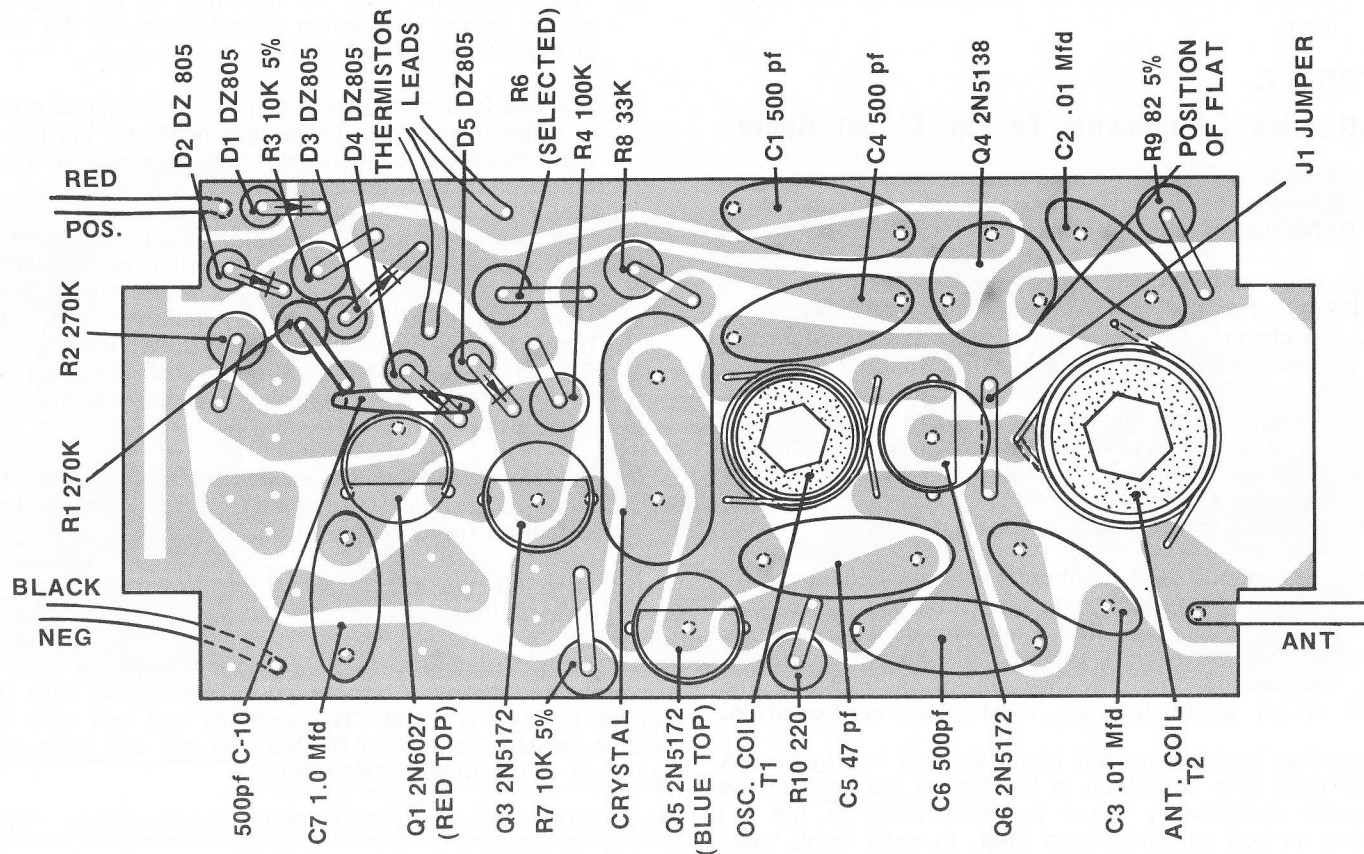
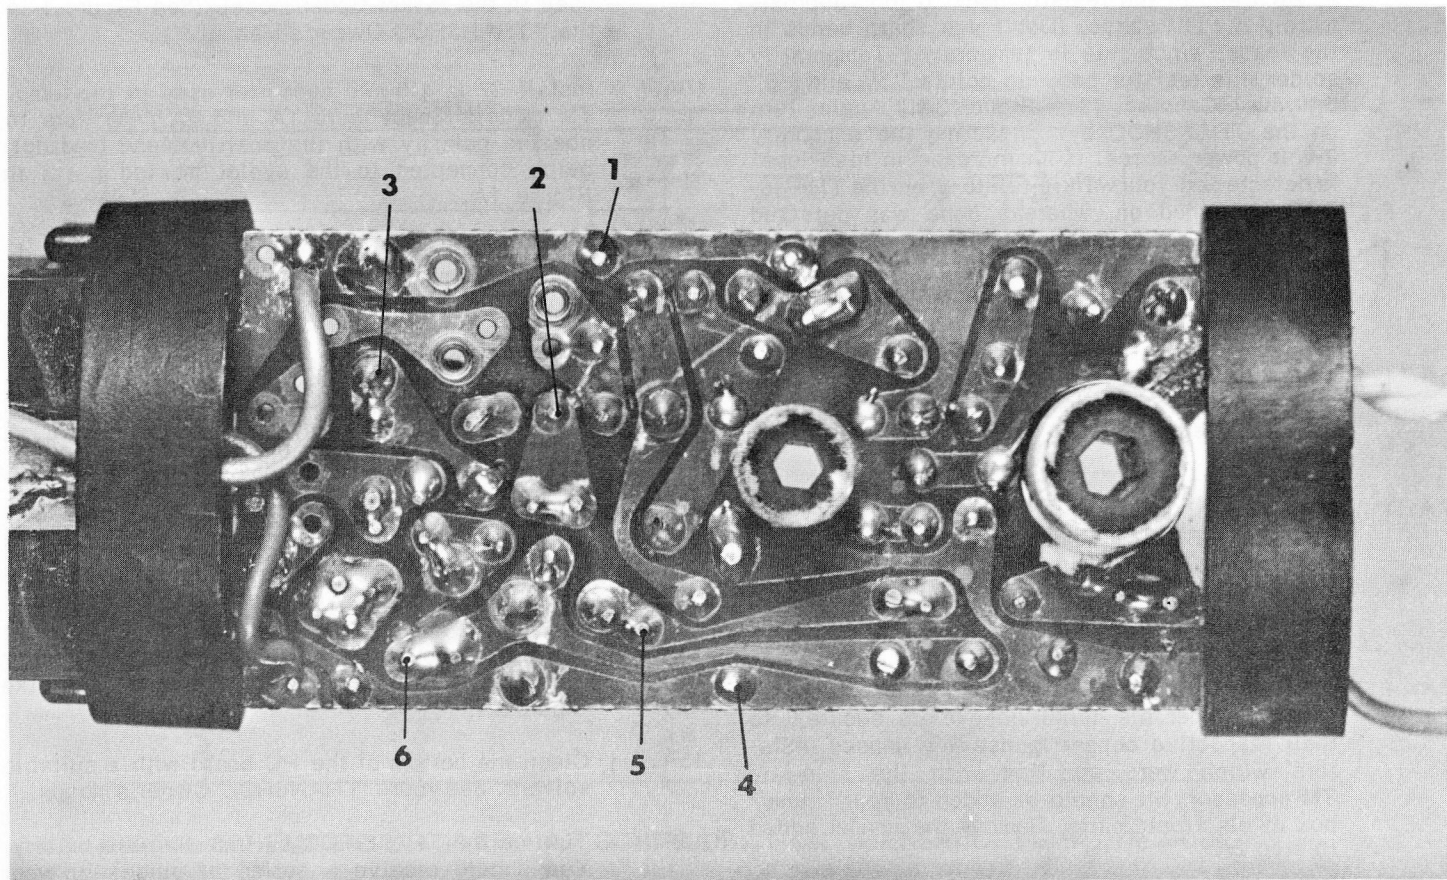

FIG. 1A "A" CONFIG. TRANSROC, TEMP. TM MODE
FIG. 3A BOTTOM VIEW, "A" CONFIG. TRANSROC, TEMP. TM MODE
Note that each component identifier line in Figures 1A and 1B ends at a dot which is located on the body of the respective component. Place a check mark in the ( ) provided as you complete each step. In each case, when the instruction calls for the installation of a component, several additional instructions are implied:
- (c) The component must be oriented as shown in Figure 1A or 1B (depending upon which configuration TRANSROC you have). In cases where the illustration is inadequate to identify polarity, etc., the instruction will include the additional information. Be careful to insert transistors with the flat surface oriented as shown in the appropriate illustration.
If your TRANSROC is of the "A" configuration, it will look like Figures 1A, 2A, and 3A, and the modification
2A. ( ) Temporarily solder a jumper wire between points "1" and "3" on the bottom of your TRANSROC board. (See Figure 3A.) This tack soldering will be easier if you first tin the tips of the jumper wire.
at each end of the resistor body to form approximately a "U" shape. (Don't use sharp bends in the leads, since this is temporary.) Temporarily solder this resistor between points "5" and "6" on your PC board. (See Figure 3A.) Again, turn on the TRANSROC by connecting the temporary 9-volt power source. If an increase in hiss level is detected on your walkie-talkie when the TRANSROC is turned on, whereas none was detected without an R6, install the 9.1 meg. resistor permanently as R6. (See Figures 1A and 2A). Be sure to solder both brass eyelets securely to the copper lands.
- 10A. ( ) Install C7 (a 1.0 mfd capacitor used in the temp. TM mode). (See Figure 1A and 2A.) Be sure to observe polarity with the positive lead (red dot) being connected to the eyelet marked ( + ) in Figure 1A.
- 14A. ( ) Inspect the bottom of the PC board for poor solder joints, solder bridges, etc. It should look like Figure 3A.